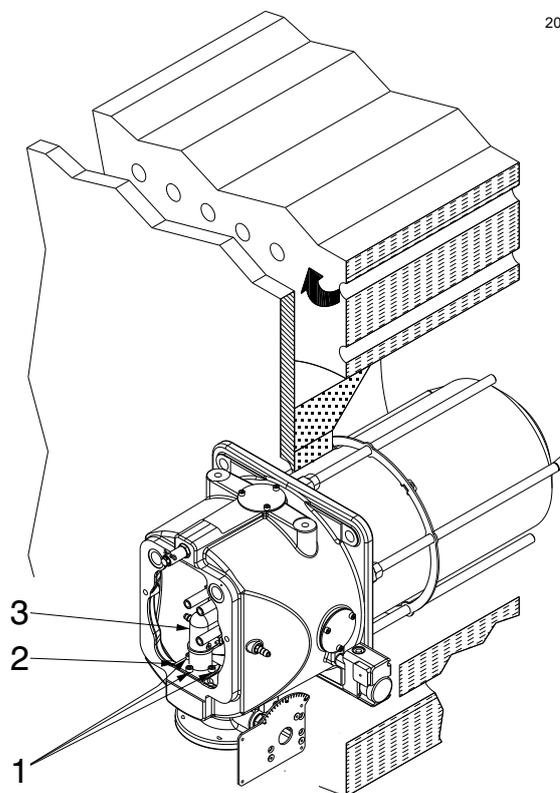

Fig. 18
- unscrew the nuts 1) (Fig. 18);
At this point of the installation, the combustion head is fixed to the boiler as shown in Fig. 18 on page 22. It is therefore especially easy to adjust, and this adjustment depends only on the maximum output of the burner.